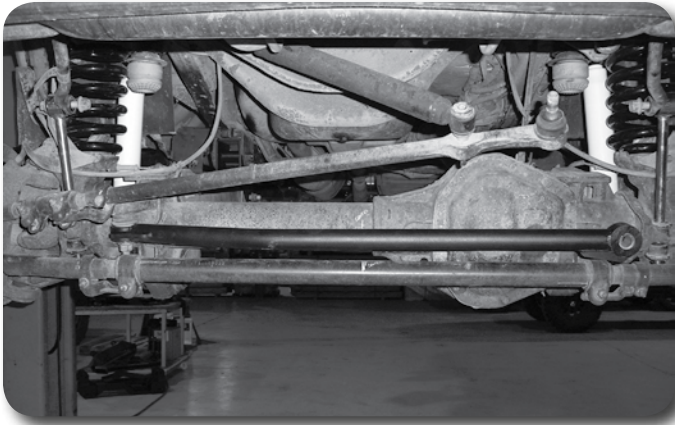

Figure 17
37. Attach the new assembled front track bar to the original ball joint mount of the passenger's side of the axle. **Figure 17** Fasten with the factory nut and torque to 184 ft-lbs. The frame end will be attached with the vehicle's weight on the suspension.